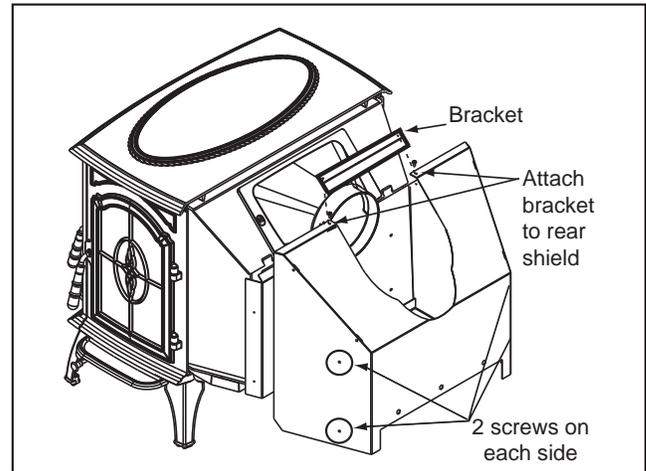

Figure 13.4
2. Remove 4 Phillips head screws from the rear shield, 2 on each side, lift shield off and set aside. **Figure 13.4.**
7. Position the bracket (found in the component pack inside the firebox) over the opening on the rear shield. Use 2 screws removed in Step #1 to secure the bracket. **Figure 13.4.**